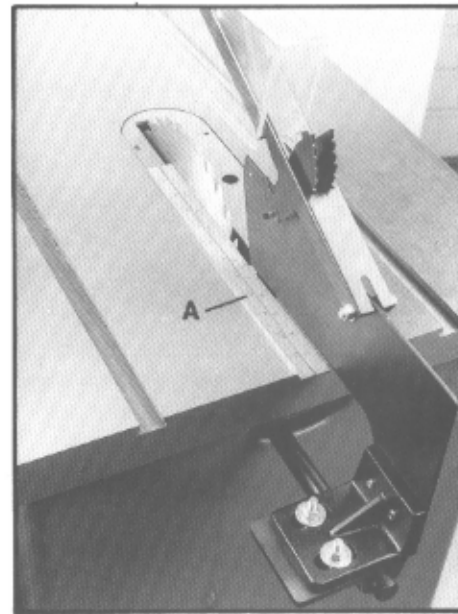

Fig. 7
1. Raise blade guard away from table and hold anti-kickback pawls away from table surface with the cut-out in the guard arm. (Fig. 7)
2. Using an accurate straight edge (A, Fig. 7), align the splitter with the saw blade.